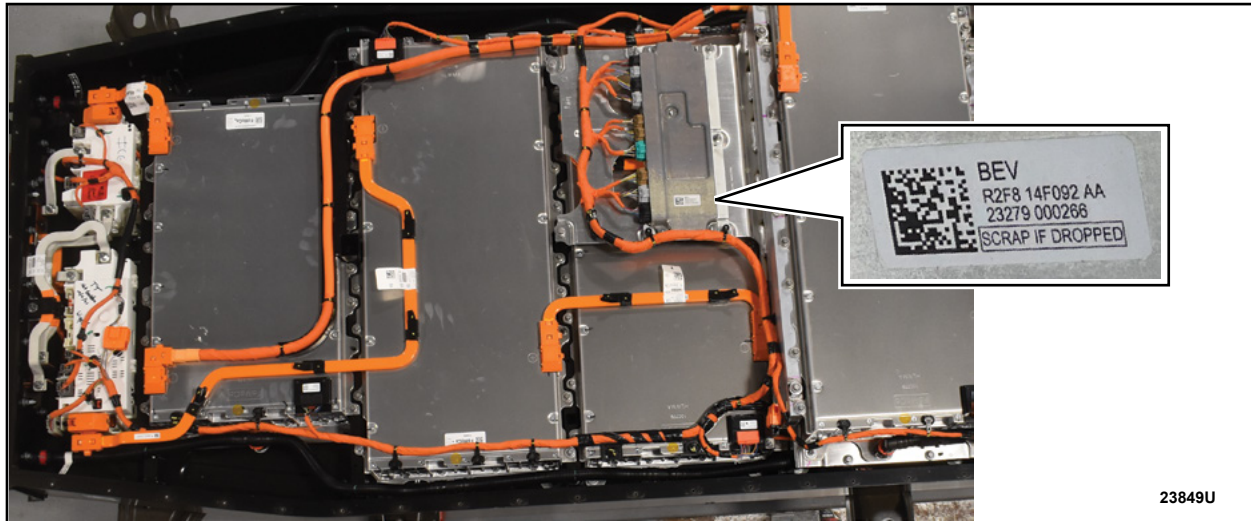

FIGURE 15
31. Take a photo of the BECM serial number. See Figure 15.